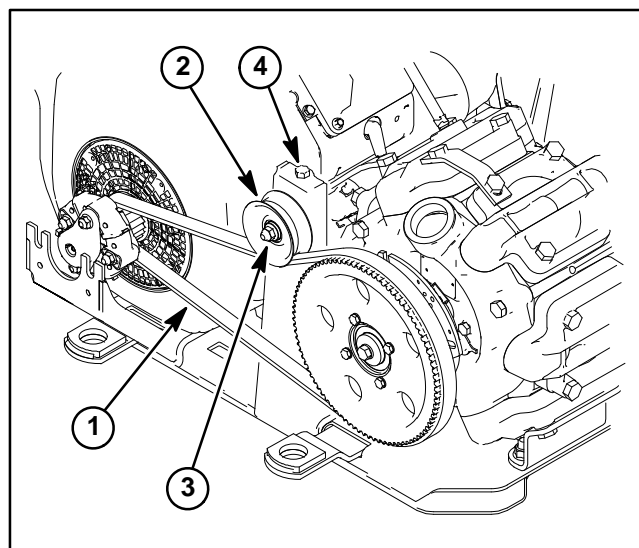

Figure 16
1. Loosen two (2) set screws on pump hub (item 12).
2. Remove fasteners securing hydraulic pump assembly (item 3) to engine and pump mounting plate. Slide pump assembly from pump hub and set aside. See Chapter 4 – Hydraulic System in this manual for additional hydraulic pump service information.
3. Loosen idler pulley flange nut and turn adjusting screw counterclockwise to relieve drive belt tension (Fig. 16). Remove spray pump drive belt.
4. Loosen and remove four (4) flange head screws and flange nuts that secure engine to engine and pump mounting plate.